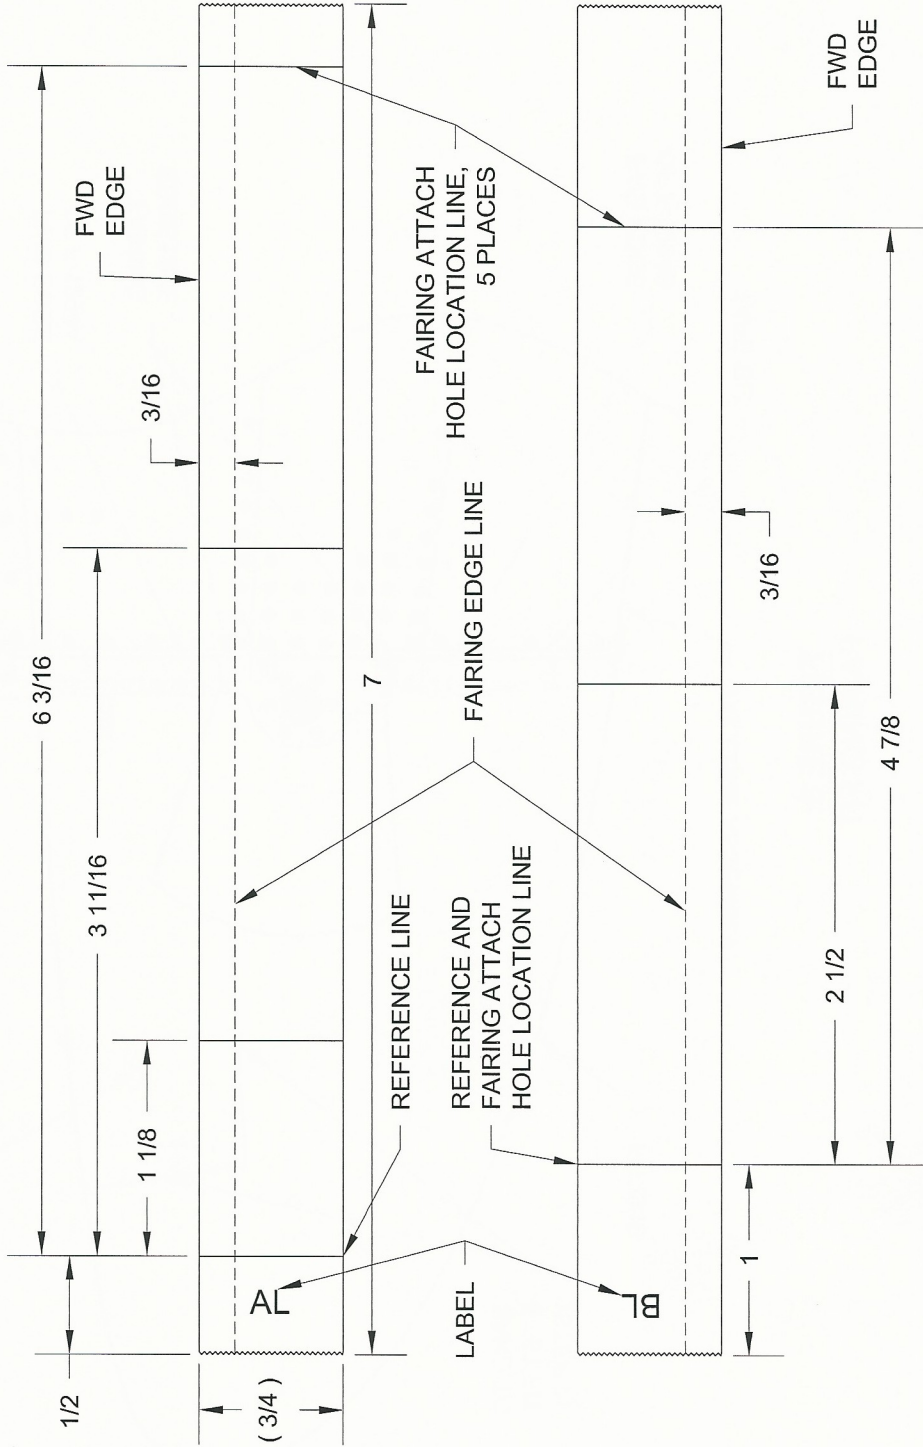

FIGURE 2:
Step 2: Mark two lengths of masking tape per dimensions in Figure 2. One will be the 'AL', which will be for the upper left half of the tailcone. The other will be the 'BL', which will be for the lower left half of the tailcone. Use a pen that makes dark lines.